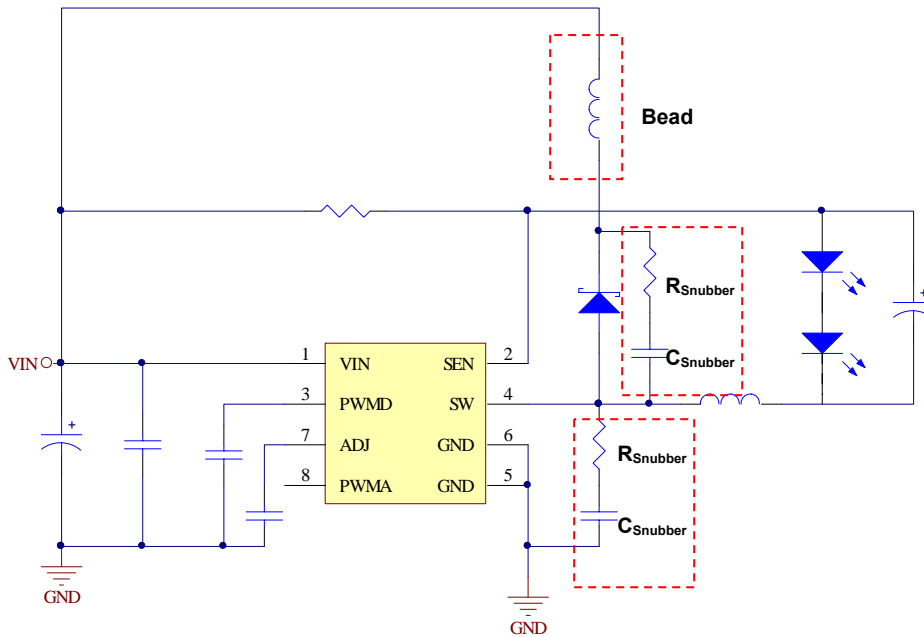

Figure 8. Radiated EMI solution proposed
14. Shown in Figure 8, in order to suppress radiated EMI interference can return path diode in series Bead
15. Shown in Figure 8, in order to suppress radiated EMI interference in SW pin to GND pin parallel RC Snubber (Note: When add RC Snubber circuit, make sure the temperature of the various components and circuit efficiency, so poorly designed RC component values, resulting in low efficiency of the circuit or component overheating problems have occurred.)
16. Shown in Figure 8, in order to suppress the interference radiated EMI in diode parallel RC Snubber . (Note: When add RC Snubber circuit, make sure the temperature of the various components and circuit efficiency, so poorly designed RC component values, resulting in low efficiency of the circuit or component overheating problems have occurred.)
17. When SW is ON/OFF, the direction of power loop should keep the same way to enhance the efficiency. The sketch is shown as Figure 8. The PCB layout is show as Figure 9